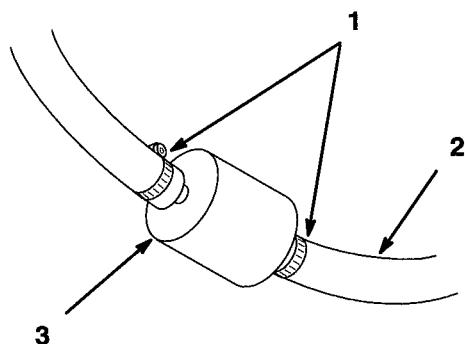

Figure 30
4. Squeeze the ends of the hose clamps together and slide them away from the filter (Fig. 30).